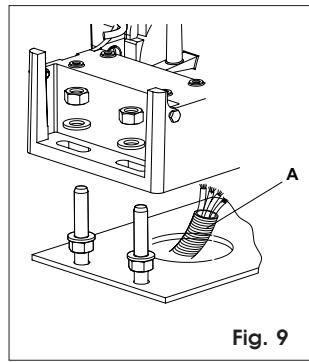

Fig. 9
- Place the operator on the plate, using the supplied washers and nuts as shown in figure 9.
When doing this, route the cables through the appropriate hole on the reduction body of the operator (Fig.9 ref.A).